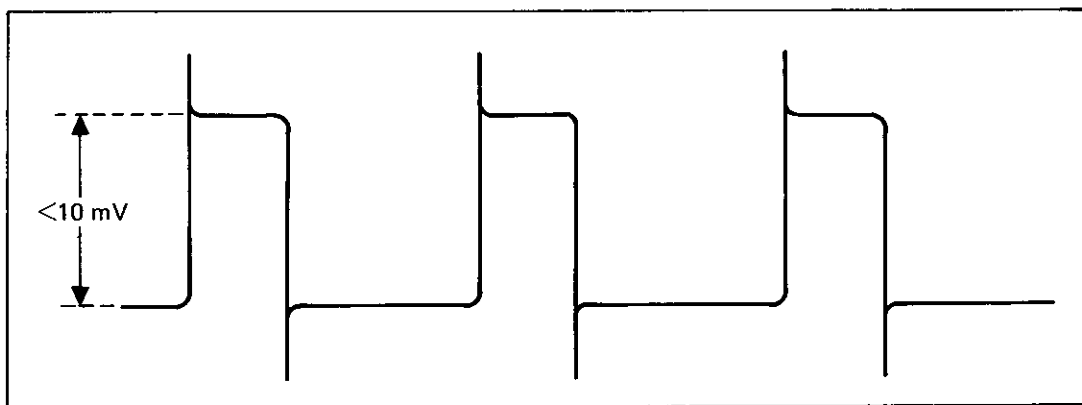

Figure 6-2. Auto Zero Calibration Waveform
4. Adjust R236 for an oscilloscope display with the squarewave amplitude less than 10 mV peak-to-peak as shown in Figure 6-2. (Suggested initial oscilloscope settings are 20 ms/cm and 100 mV/div, then adjust for at least two repetitions of the waveform).